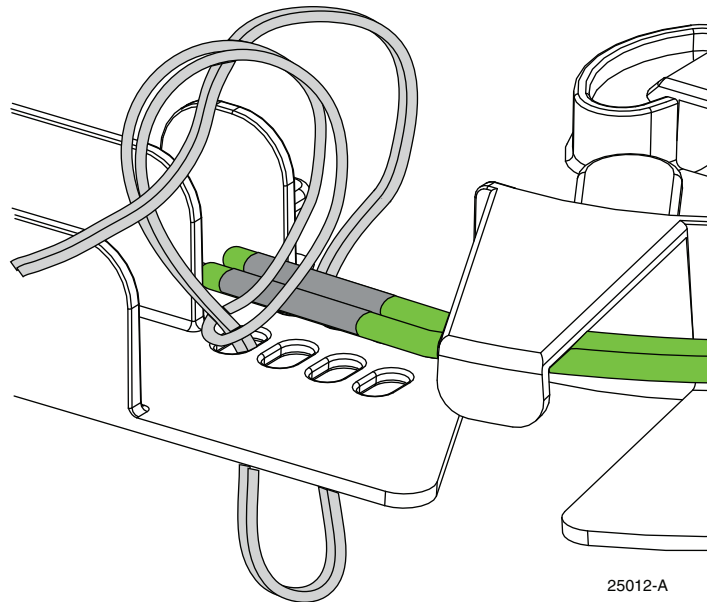

Figure 19. Forming a Cinch
- ▶ **Note:** Before placing a layer on the fiber breakout deck, wrap the cable at the breakout point with a small piece of felt tape cut from the six-inch length of felt tape provided with the splice tray. For an illustration, see Figure 19 on Page 20.
7. Identify the cables to be placed in first lacing stack layer, wrap them at breakout point with felt tape, and place them on the fiber breakout deck as shown in Figure 19. Route the wax lacing double strand up from second hole and back through the loop, as also shown.